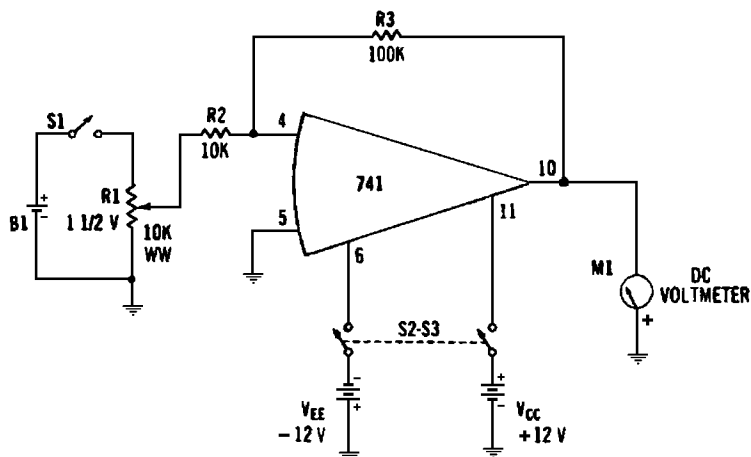

Fig. 2-4. Output polarity (step 1).
### Required Equipment (Figs. 2-4 and 2-5)
1. With switches S1 and S2-S3 open and with potentiometer R1 set to zero, set up the test circuit as shown in Fig. 2-4. Watch the meter polarity.